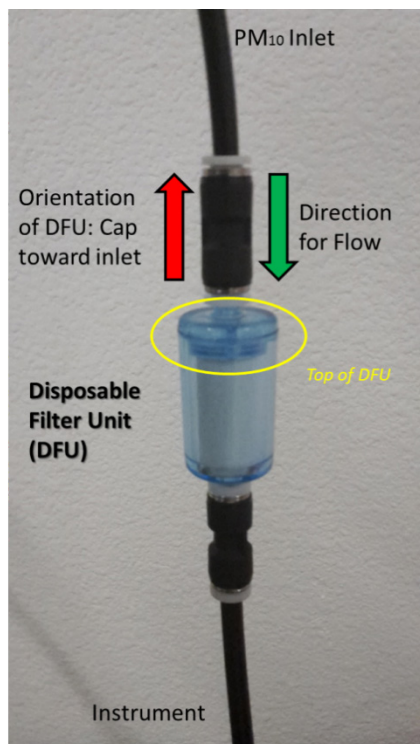

Figure 5. External DFU.
10. Noting its orientation at the back of instrument, detach the filter from the quick-connect fittings and replace it with new filter (Figure 5).